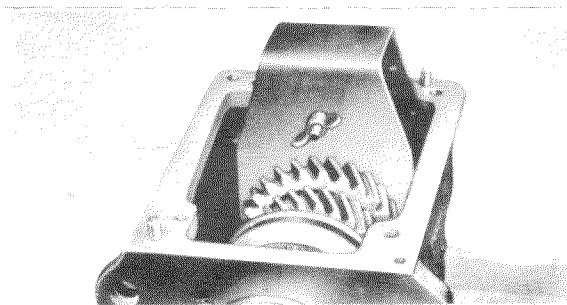

Fig. 26 — 4/19
41. Slide Retaining Fixture 136 589 14 61 into the small gear section of the first and second speed gears in such a way that the two gears are pushed toward the synchronizing unit; this is necessary to prevent the key from slipping out of the groove of the stop ring or the thrust washer (see Fig. 26—4/19).